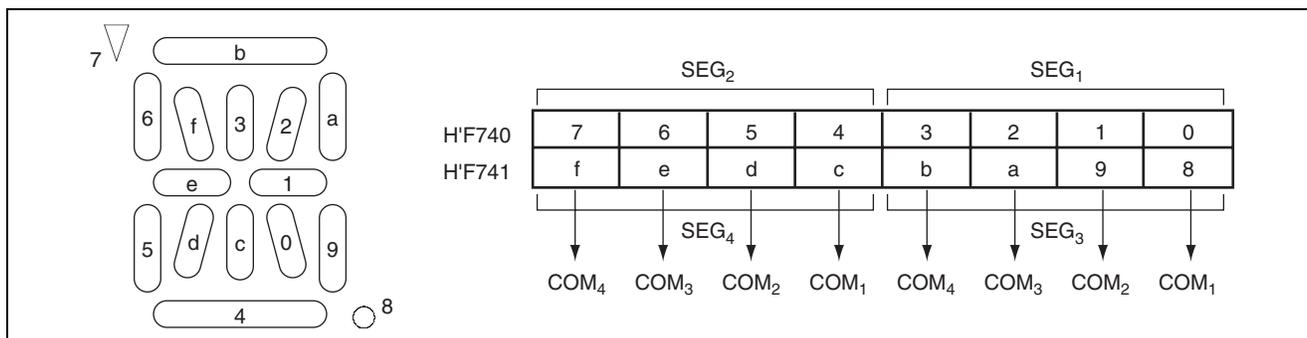

Figure 2.5 Relationship between LCD Light On/Off and Corresponding LCD RAM Setting Values
7. Figure 2.5 shows the relationship between the leftmost digit of the 8-digit 16-segment LCD and LCD RAM setting values corresponding to SEG₁ to SEG₄. As shown in figure 6, when the bits in LCD RAM corresponding to 0 to f are set to 1, the corresponding LCDs light up; while bits in LCD RAM corresponding to 0 to f are cleared to 0, the corresponding LCDs do not light up.